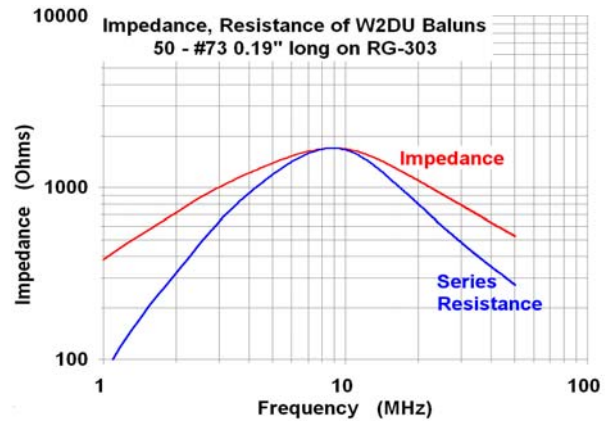

Fig 34 – A W2DU Balun (Measured Data)
through a string of lossy ferrite cores to form a common mode choke, a design which has come to be known as the W2DU balun. Maxwell's design consists of 50 Fair-Rite 2673002402 beads, 0.19" long and just big enough to fit over RG-303 coax (Fig 34). One of his experimental models used 300 beads, and measured 4500 +j3800 ohms at 4 MHz. Notice that his choke is resonant at about 8.5 MHz because that is where his #73 beads are resonant. A W2DU balun will be most effective on 40M, 30M, and 20M.
- ♦ 1) We are stuck with the resonant frequency of the bead used in the string. If the bead is inductive, the choke will be inductive, and nearly all commonly available beads are inductive in the HF spectrum. The exception is Fair-Rite #73 (see Fig 34), and the largest cable that fits through the largest #73 bead is RG-303.
- ♦ 2) As Figs 34 and 35 show, it takes a very large number of beads to achieve even modest choking impedance. The usual compromise is using too few beads, which results in insufficient choking impedance. The resulting common mode current can overheat the balun, often to the point of failure, and couple RX noise.